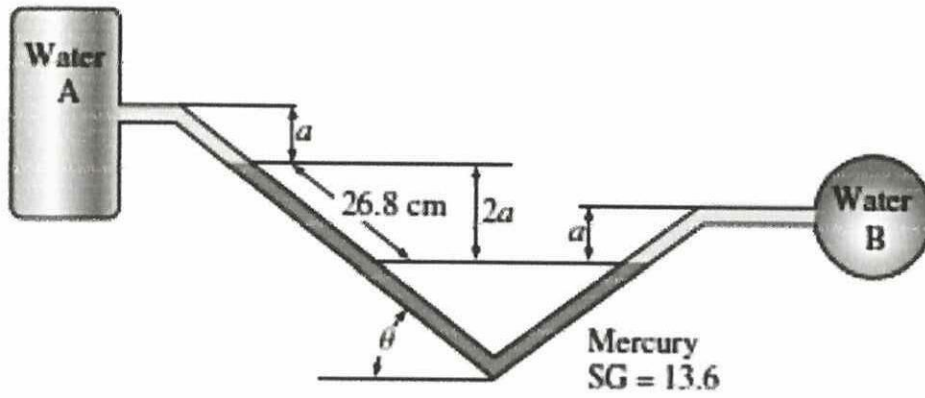

Figure Q1(b)
- (b) Two tanks are connected through a mercury manometer with inclined tubes, as shown in **Figure Q1(b)**.